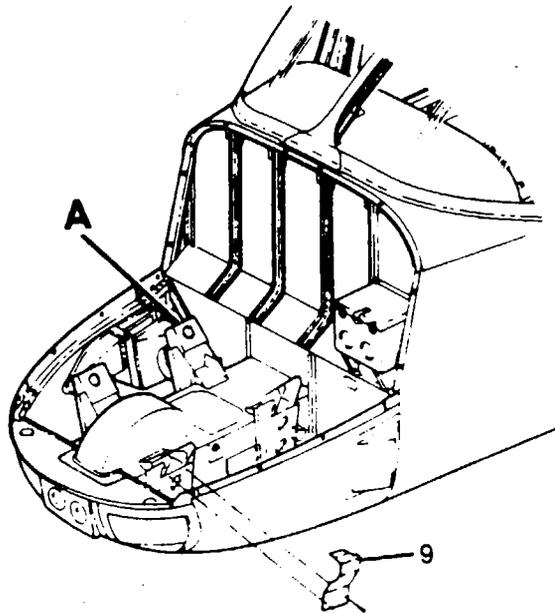

Figure 12-2. Engine Mount Installation
If shock-mounts will be re-used, mark each one so it will be reinstalled in exactly the same position. If new shock-mounts will be installed, position them as illustrated in figure 12-2.
- Install engine shock-mounts and ground strap as illustrated in figure 12-2.